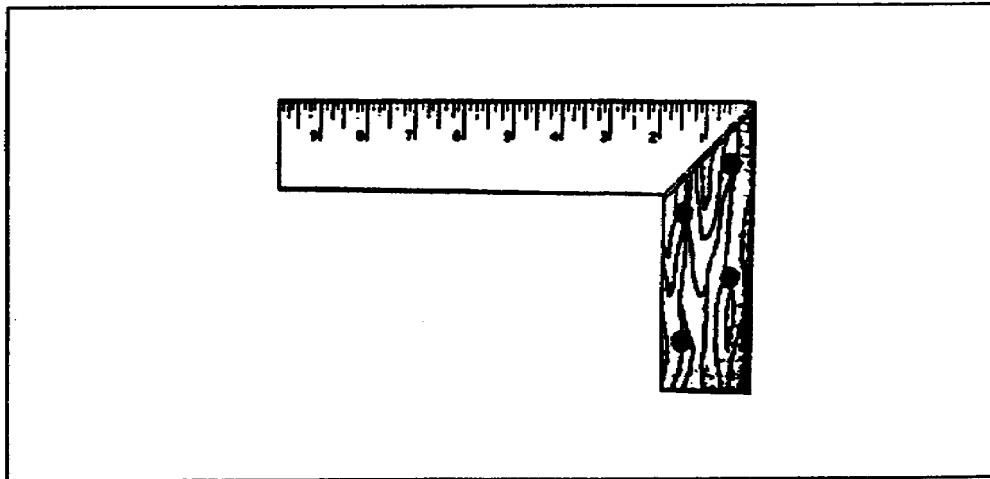

Figure 2-47. Miter square
b. Miter Square. The term *miter* means any angle except a right angle, but as applied to squares mean an angle of 45 degrees (Figure 2-47). It is similar to a try square, but the stock of a miter square has an angle or 45 degree set in the